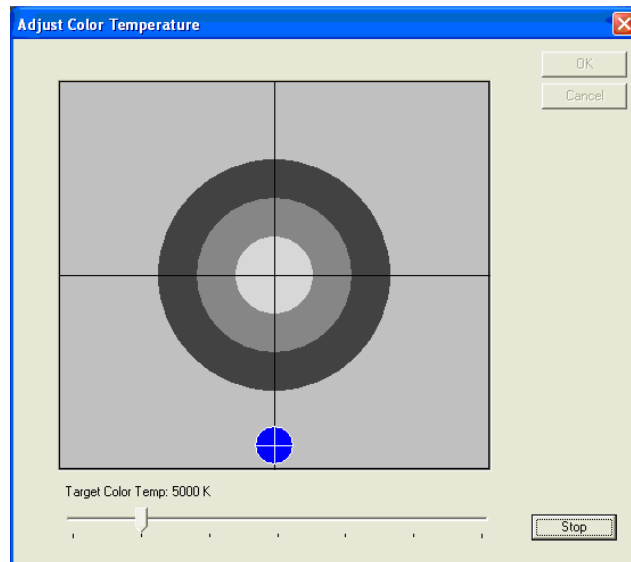

Figure 5
3. Increase the adjustment of the indicated color if a plus (+) sign is shown, decrease it if a minus (-) sign is shown. When the adjustment is close to the aim color temperature the display changes as shown in figure 5.